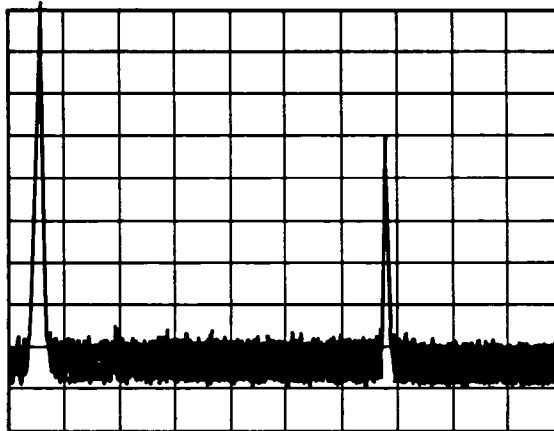

Figure 5-60. Squegging Displayed on Spectrum Analyzer
41. Using the [\blacktriangle] key on both the DUT and the LO, step through Band 2 observing the spectrum analyzer display at each step. There may be signals due to mixing products, and/or squegging. Mixing products will appear as low level signals. Squegging signals will appear as a higher amplitude signal as shown in Figure 5-60. If squegging occurs, adjust A24R5 (X2C) slightly CCW to eliminate the squegging. Note, if the control is adjusted and there is no effect on the signal, the signal is probably a mixing product.